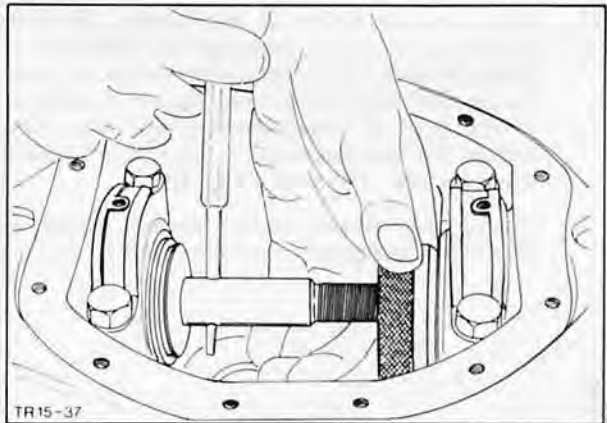

Fig. 35. Set up gauge bar
18. Hold gauge bar still with a suitable mandrel, Fig. 35, and turn adjusting nuts outwards until gauge bar can just be turned by hand at adjusting nut (after removing mandrel). Rotate gauge bar several times to settle bearings.